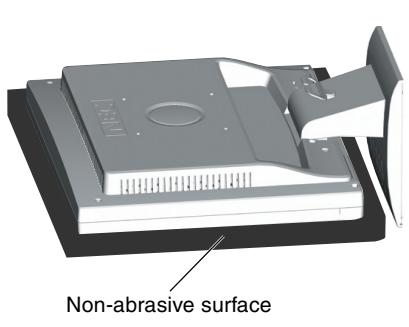

Figure R.1
2. Place monitor face down on a non-abrasive surface (**Figure R.1**).
1. Place monitor face down on a non-abrasive surface (Figure R.1).